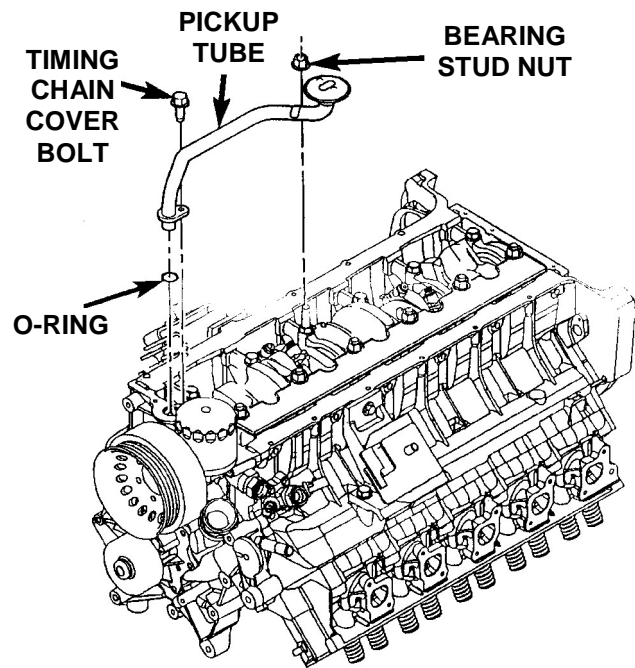

Figure 12
19. Remove the four (4) bell housing-to-oil pan bolts.
23. Remove the oil pick up tube (Figure 12).
57. Inspect the oil pickup tube O-ring (Figure 12). Install a new O-ring (P/N 06032920) if it is damaged.
58. Install the oil pickup tube into the timing chain cover, seating the O-ring (Figure 12).
59. Install oil pickup tube flange onto the timing chain cover (Figure 12). Tighten the bolt to 100 in-lbs (11 N·m).
60. Install the oil pickup tube main bearing stud nuts to secure the oil pickup tube strap (Figure 12). Tighten the nuts to 200 in-lbs (22 N·m).